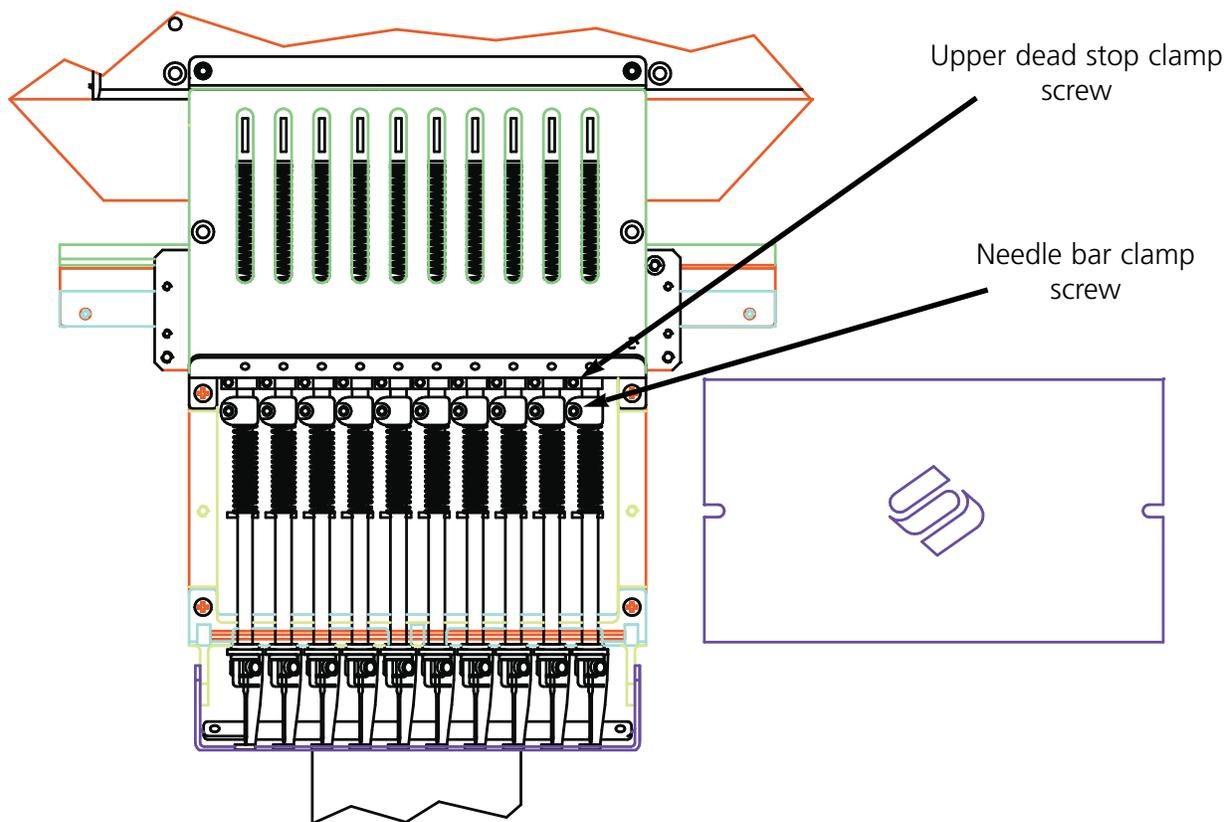

Figure 5-19
10. Loosen the needle bar clamp screw shown in Figure 5-19.